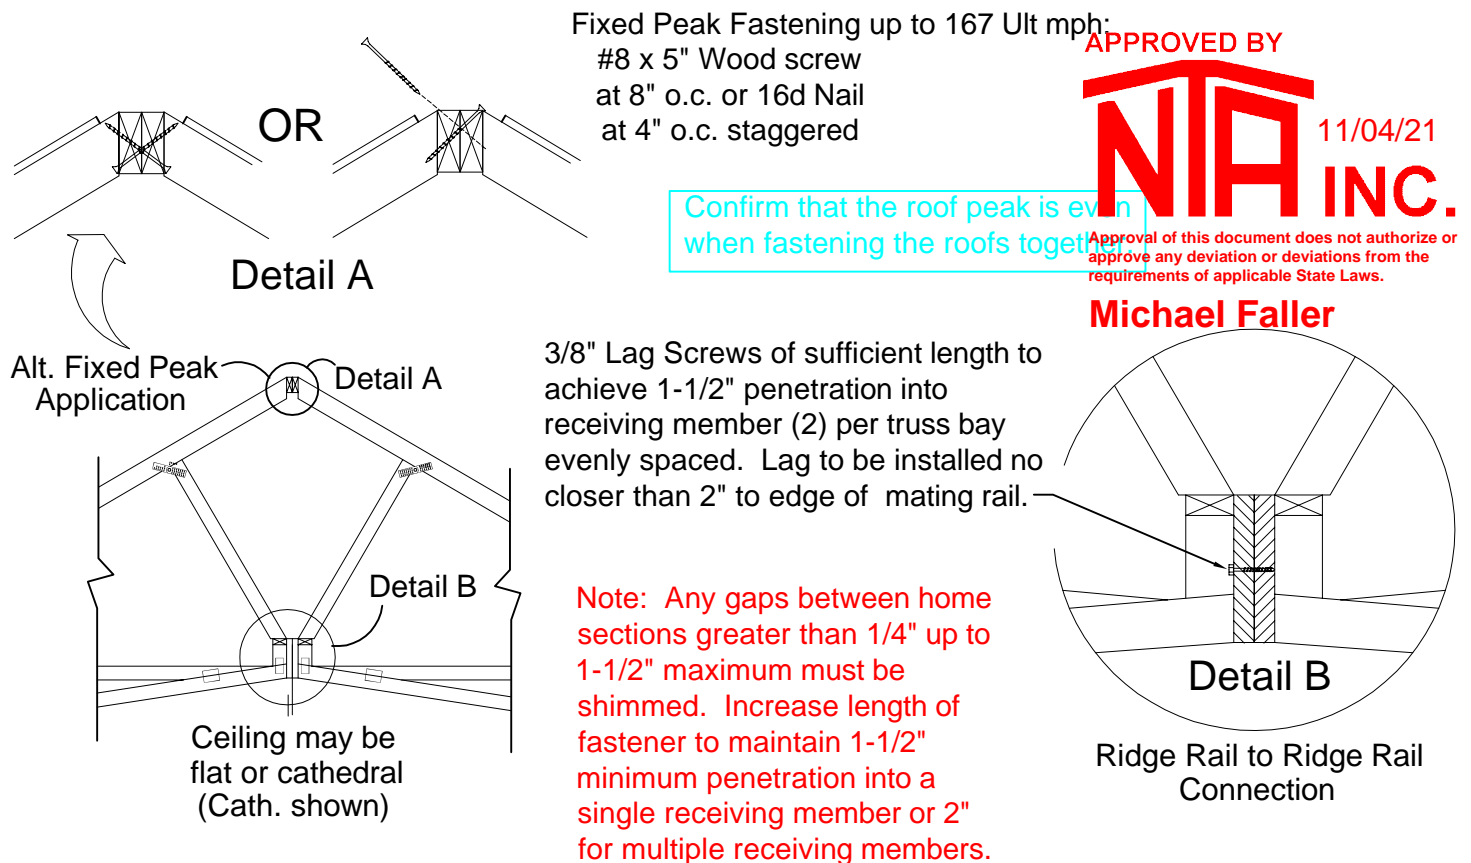

Fig. 5.8 - Roof to Roof Connection
1. Detail - A in Figure 5.8 below illustrates connection condition when home has a fixed truss chord at the peak which does not require a "drop-in" section or a hinged over peak.
2. Detail - B in Figure 5.8 illustrates the typical mate line fastening at the ceiling rails of the home.